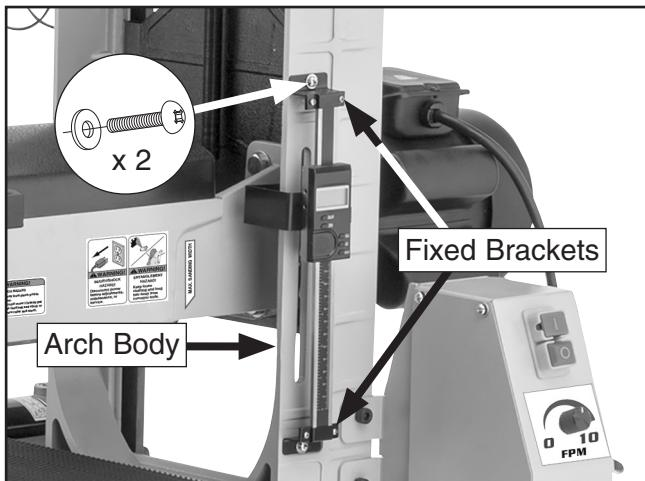

Figure 18. Digital depth gauge installed on machine.
- 17.** Attach digital depth gauge to arch body with (2) M5-.8 x 8 Phillips head screws and 5mm flat washers (see **Figure 18**).